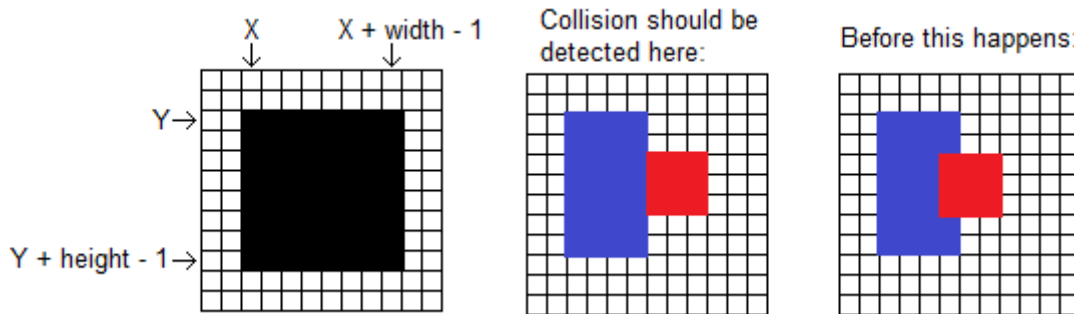

Figure 10: Examples of Entity Collision
In order to ensure that entities never overlap visually, we would like collision to be detected before any objects actually overlap (see Figure 10 for an example). The way we will do this is to check two constraints:
- a. Are the paddle and ball next to each other, as shown in Figure 10?
5. Can we guarantee, for this system, that the ball *will* occupy the space shown in Figure 10, that leaves no pixels between the ball and the paddle?